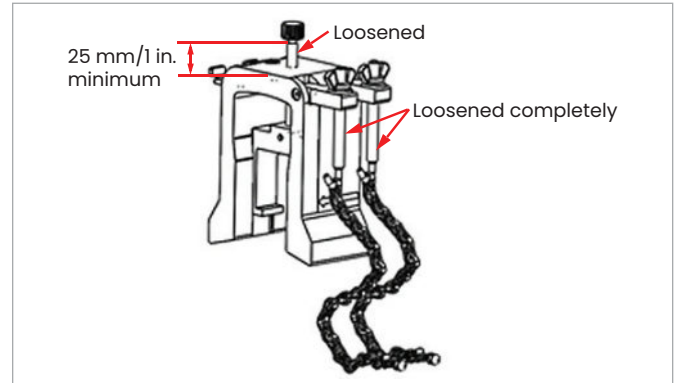

Figure 25: Loosened yoke screw and J-hooks
1. Loosen the yoke screw at least 25 mm/1 in. (all the way for pipes <50 mm/2 in.) and loosen the J-hooks all the way (see Figure 25 below).